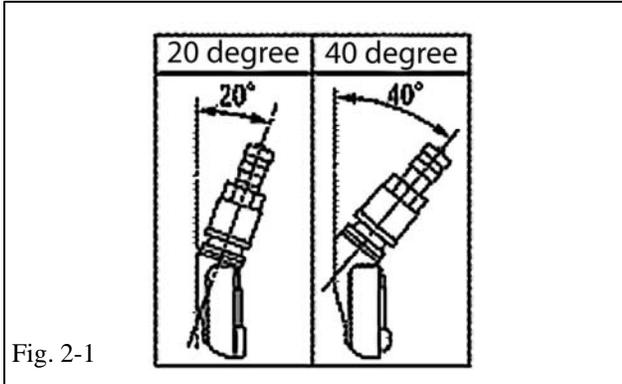

Fig. 2-1
**40 degree sensors are NOT used on ANY Accessory Alloy Wheels! (Fig. 2-1)**